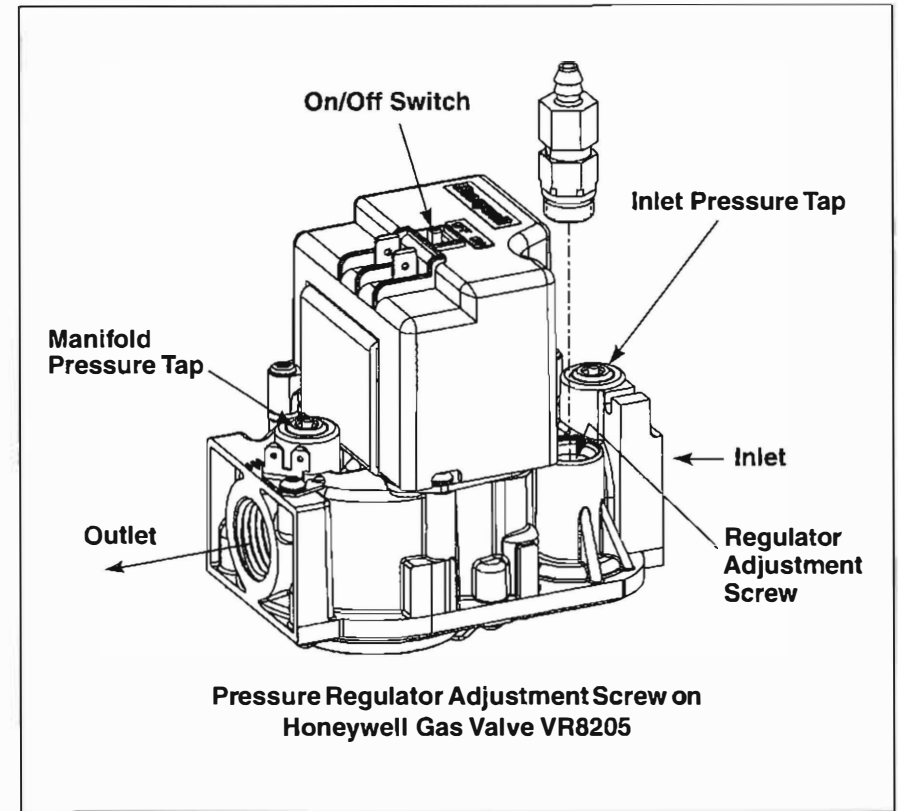

Figure 1
- Remove the pressure regulator adjustment screw located underneath the cap screw. For condensing furnaces, the Pressure Regulator Adjustment is located underneath the brass fitting (see Figure 1).
1. With a 3/16 inch Allen wrench, remove the manifold pressure tap plug located on the outlet side of the gas valve. Refer to Figure 1.
1. If the manifold pressure must be adjusted, remove the protective cap from the top of the gas valve regulator, as shown in Figure 1.